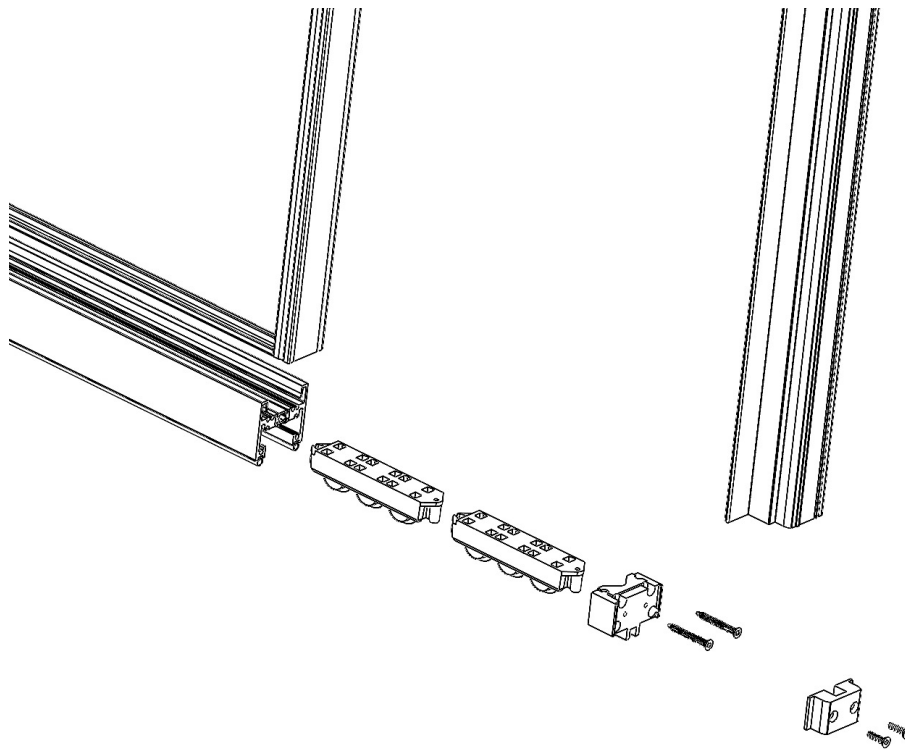

Figure 15
5. Determine the number of roller assemblies needed per panel and connect by sliding one (1) roller assembly onto the other. Continue this process for all required rollers. Once complete, slide the end sweep onto the roller assembly and set roller assemblies in front of panel.
6. Taking care not to scratch or shift the lead panel over. With a pry bar, lift the panel high enough to slide the roller assembly into place. Ensure that all rollers rest onto the track cap and roll freely. (See Figure 15).